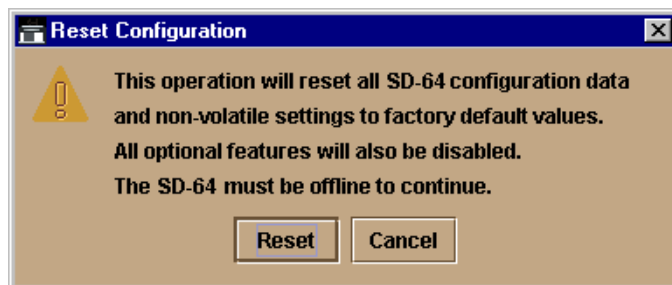

Figure 3-36: Reset Configuration Dialog Box
- At the navigation control panel, select Reset Configuration from the Maintenance menu. The Reset Configuration dialog box (Figure 3-36) displays.